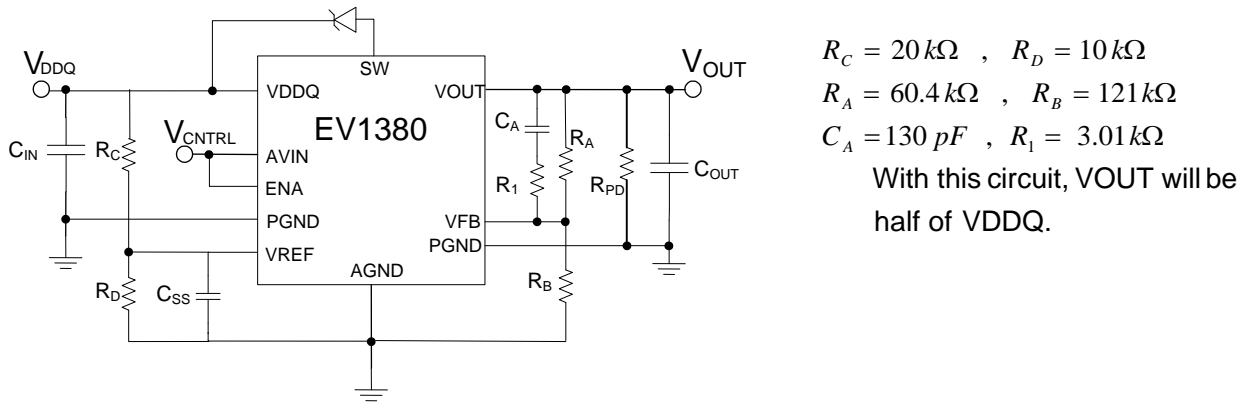

Figure 1: Output voltage programming and loop compensation
- The EV1380QI includes the bulk of the compensation network internally. However, an external phase-lead (zero) capacitor and resistor is required in addition to two resistor dividers to set the output voltage. This network is shown in Figure -1. Appropriate component values allow for optimum compensation for a given V_{DDQ} voltage and choice of loop bandwidth. The values in Figure 1 are as populated on the eval board, and have been optimized for $V_{DDQ} = 1.5V$. The circuit in Figure 1 will be stable for lower values of V_{DDQ} as well. For V_{DDQ} higher than 1.5V, please see the datasheet to calculate the resistor divider and compensation values.